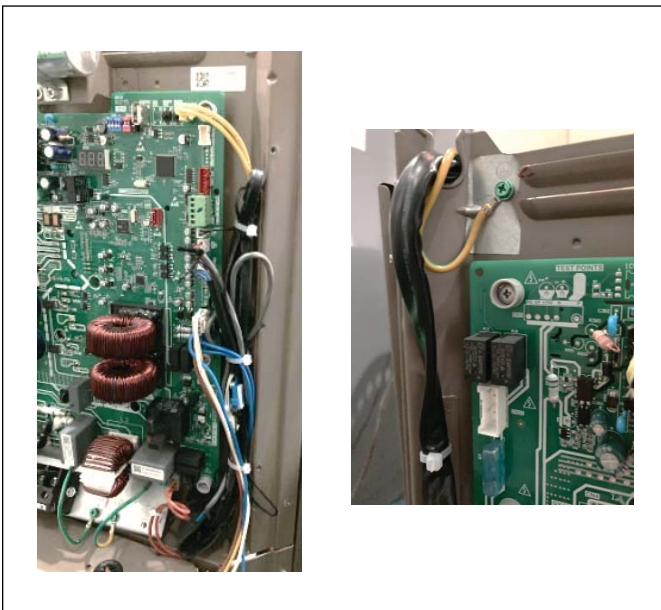

Figure 17
21. Feed thermostat wires through the Bottom Access Panel to the CN9 wire harness on the control board. Splice wires and use field supplied wire nuts to make connection. See Figure 17.